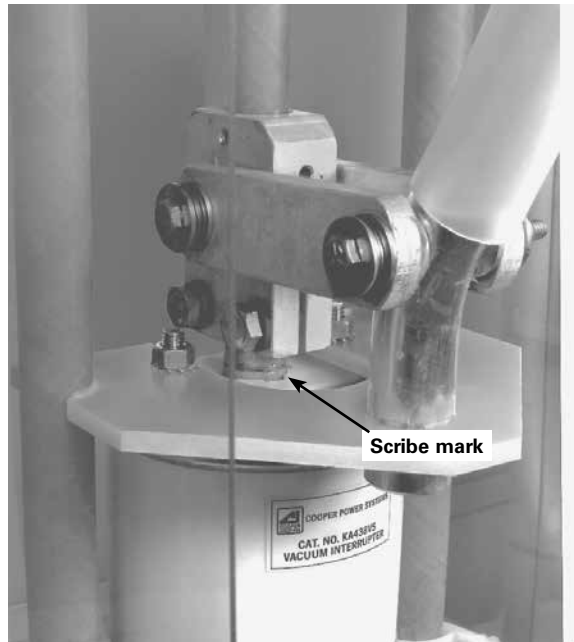

Figure 3. Interrupter contact wear inspection
- Locate the scribe mark on the moving contact rod at the top of the interrupter. (See Figure 3.)